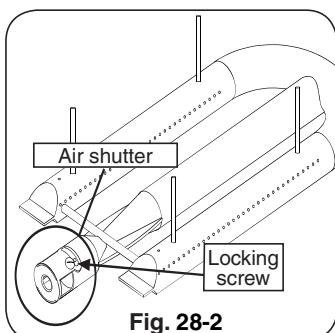

Fig. 28-2
2. Adjust the air shutter opening by loosening the adjustment screw with a screwdriver, then turn the air shutter to open or close it (see Fig. 28-2).